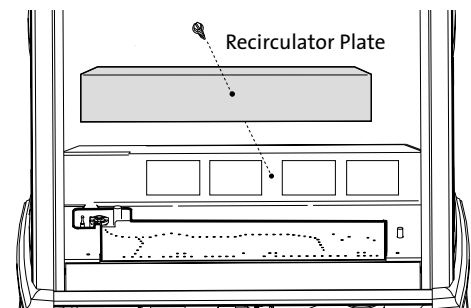

Figure 5. Remove Recirculator Plate.
#### 1. For Any Vertically Terminated Stove - Fig. 5.
- Remove the Recirculator Plate from the back of the Burner Skirt as shown in fig. 5. Determine which Air Intake Restrictor plates should be used by following the guidelines on page 9.